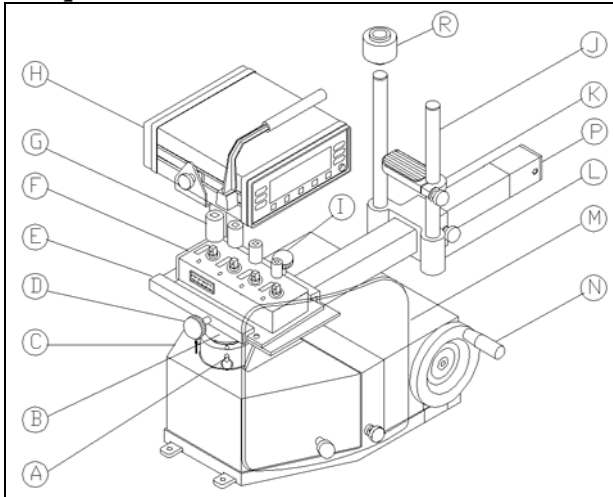

Figure 6-1: Installation multiple transducers
Multiple Transducers (**2000-400-02**) must be installed into the loader using a 4 in 1 Transducer Standoff (B) and a 4 in 1 Adapter Bracket (E) as shown in Fig.6-1 and 6-2. Each transducer must be properly aligned before use. The transducer is properly aligned when the square drive of the transducer is approximately in line with the extendable reaction bar (P). For easier alignment use the marked lines on the 4 in 1 Adapter Bracket as a guide. Aligning the top edge of the Multiple Transducer with each marked line on the 4 in 1 Adapter Bracket, provides proper alignment for each transducer. When aligning the 50 in. lb. transducer, the 4 in 1 Adapter Bracket, together with the Multiple Transducer, must be rotated in the 4 in 1 Transducer Standoff (B) for 180 degrees prior to alignment, to avoid interference with the Safety Shield (M).